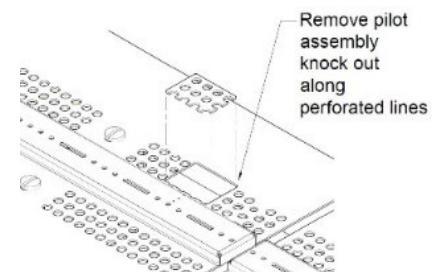

FIGURE 7
10. Before replacing the removed burner top from **step 4**, locate the perforated rectangular section in the pan. Gently remove this section along the perforations using a screwdriver or pliers. **Figure 7**